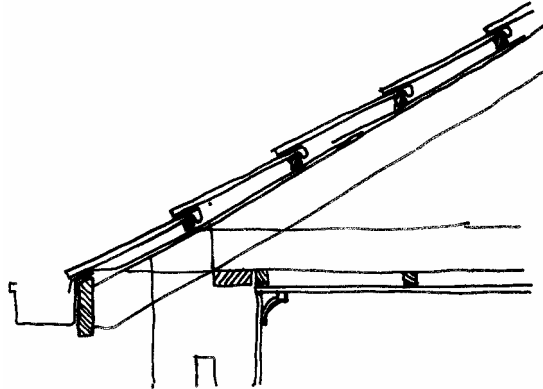

Figure 10.32 – Double-sided reflective sarking over rafters
- ❖ Use reflective foil laminate (“sarking”) over the rafters but below the battens of the roof tiles with a minimum overlap of 150mm starting from the bottom where the foil should end in the gutter. *Fig10.32*